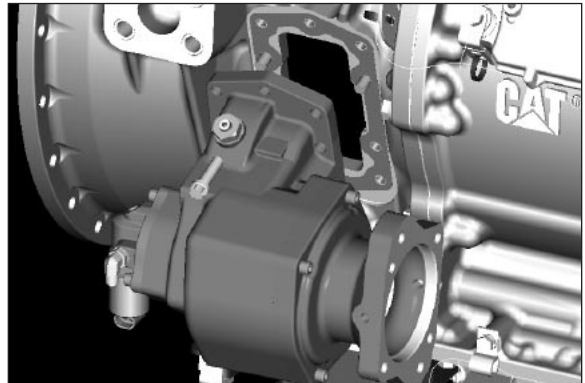

Fig. 5
5. Position the P.T.O. and secure it with the top capscrew provided. (**Fig. 5**)